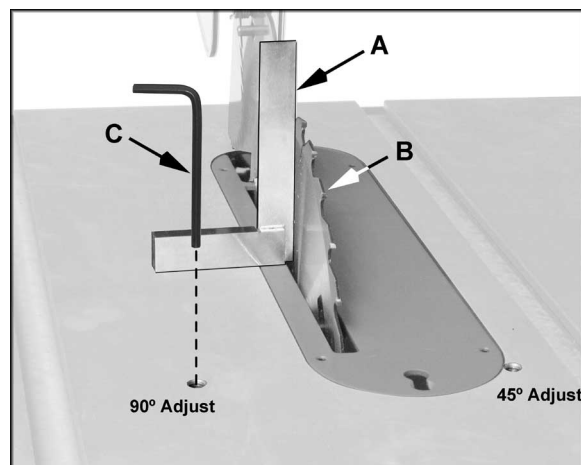

Figure 19
4. Place a square (A, Fig. 19) on the table and check to see that the blade (B, Fig. 19) is at a 90° angle to the table. Make sure that the square is not touching a blade tooth.
5. Back out the 90° adjust setscrew (turn counterclockwise) one or two turns with a 4mm hex wrench (C, Fig. 19).